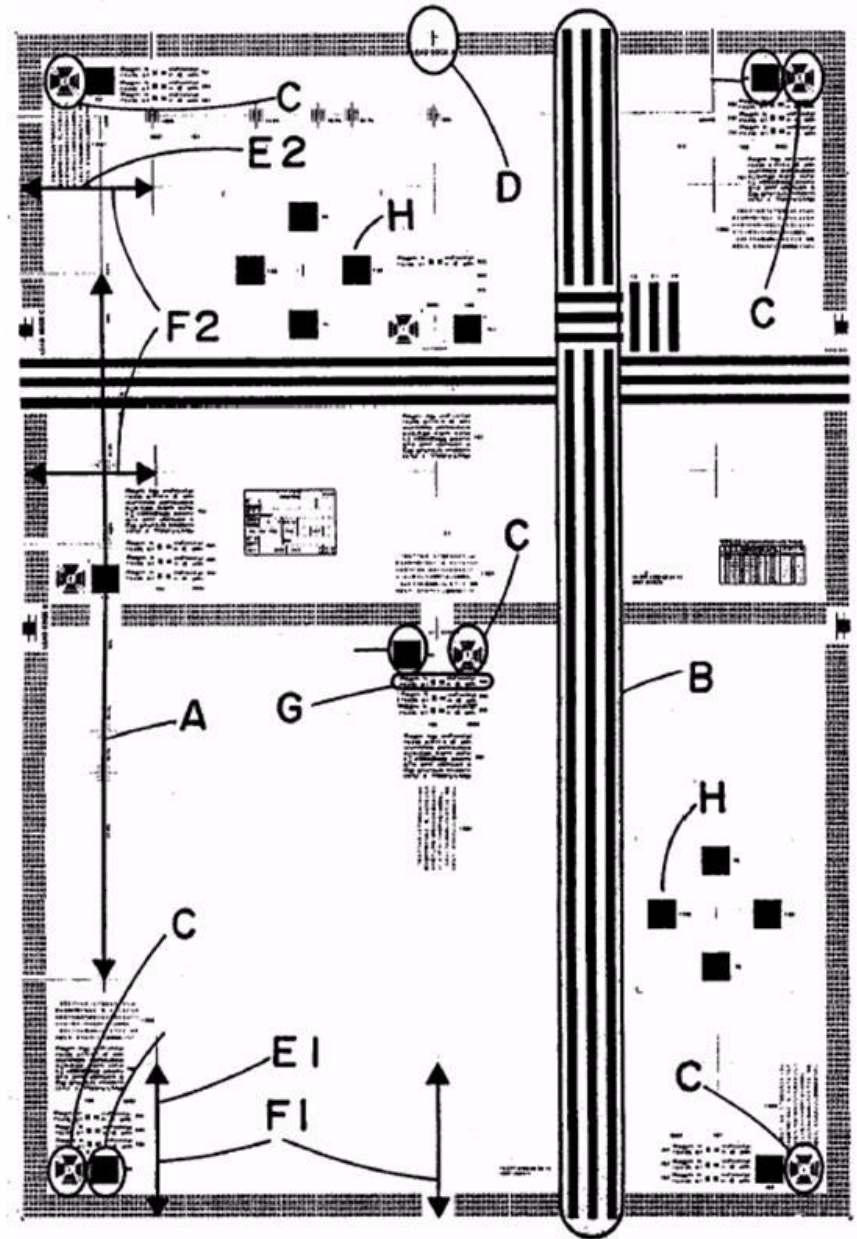

Figure 2 499T286
- (Table 2, Copy Quality Check Items and Figure 2) 499T286 (FX STP 4100)
Solid Area Density (Area H, Figure 2)
Magnification (Area A, Figure 2)
Line Copy Density (Area G, Figure 2 or Black SIR 82P520, Figure 1)
Skew (Area F, Figure 2)
Low Density (Area G, Figure 2 or Black SIR 82P520, Figure 1)
Resolution (Area C, Figure 2)
Skip and Smear (Area B, Figure 2)
Lead Edge Registration (Area D, Figure 2)
Side Edge Registration (Area E, Figure 2)